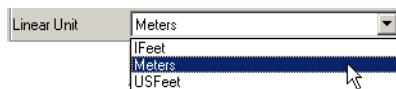

Figure 3-93. Linear Units List
- Set linear units (Figure 3-93).